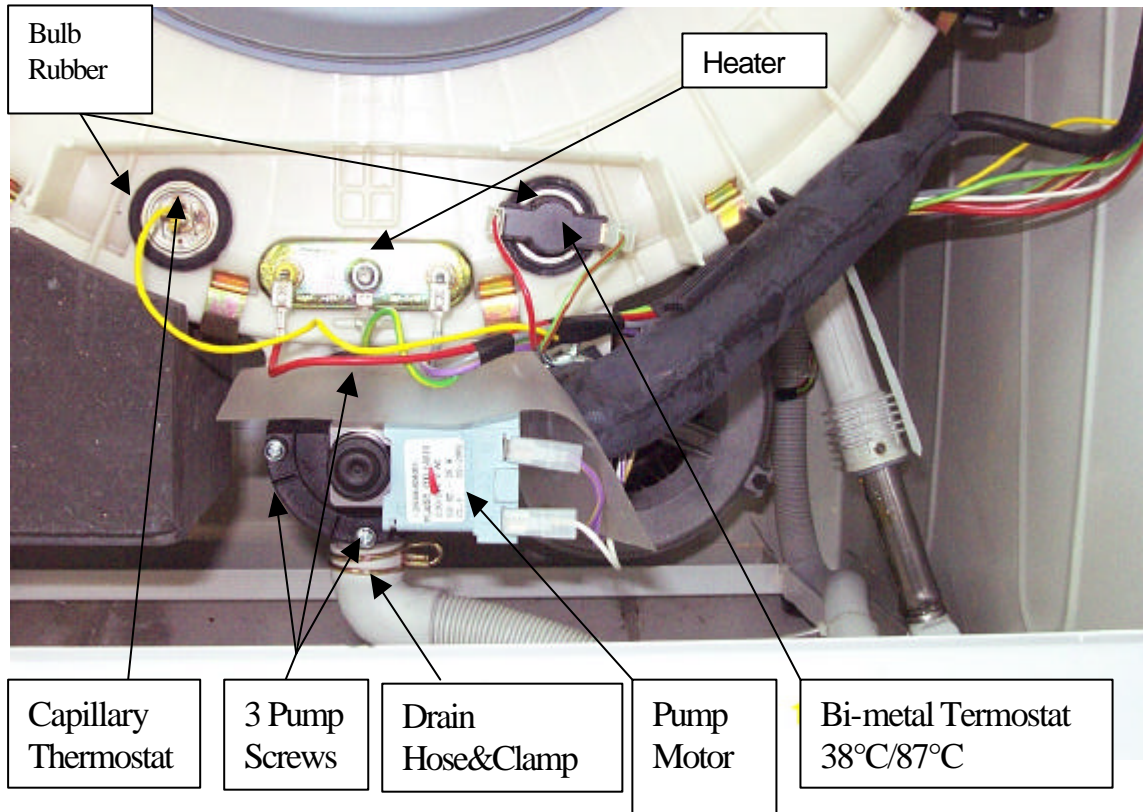

Figure : 8
- Thermostat bulb is taken off its housing on the tub. (figure 8).
- Heater cables are disconnected (figure 8)
- Heater M6 bolt is loosened and the heater is released through the tub cover (figure 8)
- Pump cables are disconnected (figure 8)
- Drain hose is released (figure 8)
- 3 screws that attaches the pump to the tub are unscrewed (figure 8)
- Thermostat bulb rubber is pulled by hand from the tub cover (figure 8)
- Heater is removed (figure 8)
- Thermostat bulb is removed (figure 8)